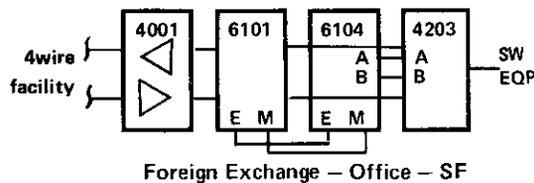

figure 2. Typical FXO/SF arrangement
2.08 To provide standard SF interface levels, a line amplifier (typically, Tellabs' 4001) is used to provide the necessary facility-side gain. On the terminal (switching-equipment) side, a terminating set (typically, Tellabs' 4201 or 4203) provides level control and 4wire-to-2wire termination. A 4wire station termination module (typically Tellabs' 4405) can be used in a 4wire-to-4wire termination. Figure 2 shows a typical FXO/SF signaling and terminating arrangement. (For specific information